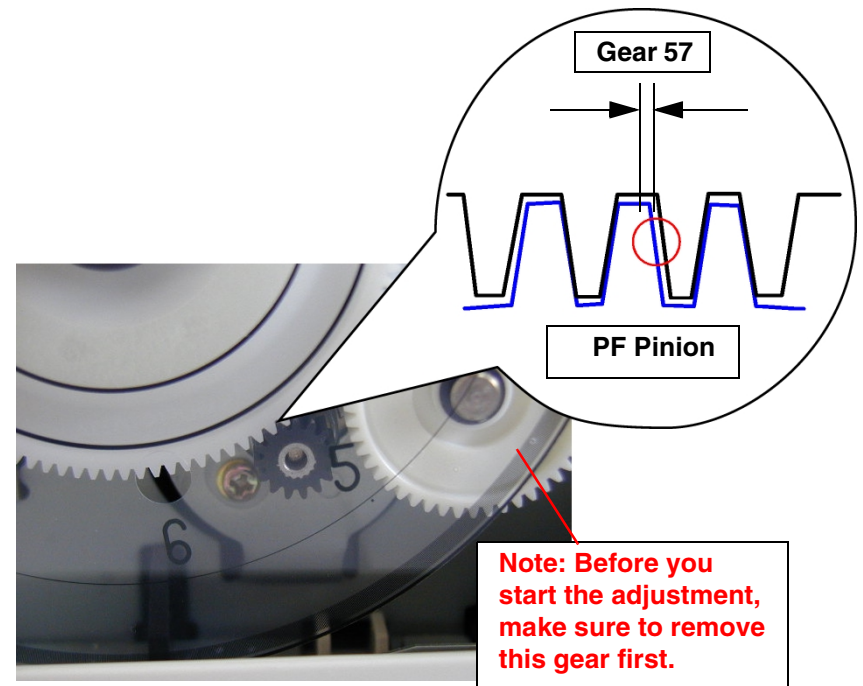

Figure 5-7. Check the backlash value
- 7) In case the above adjustment procedural is completed, check the backlash value between the Gear 57 and the pinion gear of the PF motor by using Micro scoop. Refer to the Figure 5-7.